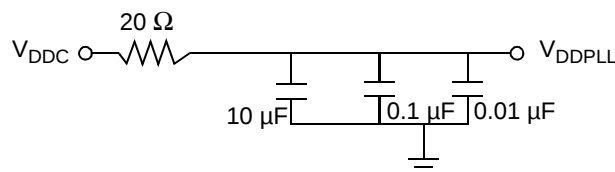

Figure 31. PLL Power Supply Filter Circuits
- **PLL power supply filtering.** The MSC7116 V_{DDPLL} power signal provides power to the clock generation PLL. To ensure stability of the internal clock, the power supplied to this pin should be filtered with capacitors that have low and high frequency filtering characteristics. V_{DDPLL} can be connected to V_{DDC} through a 20 Ω resistor. V_{SSPLL} can be tied directly to the GND plane. A circuit similar to the one shown in **Figure 31** is recommended. The PLL loop filter should be placed as closely as possible to the V_{DDPLL} pin (which are located on the outside edge of the silicon package) to minimize noise coupled from nearby circuits. The 0.01 μF capacitor should be closest to V_{DDPLL} , followed by the 0.1 μF capacitor, the 10 μF capacitor, and finally the 20- Ω resistor to V_{DDC} . These traces should be kept short.